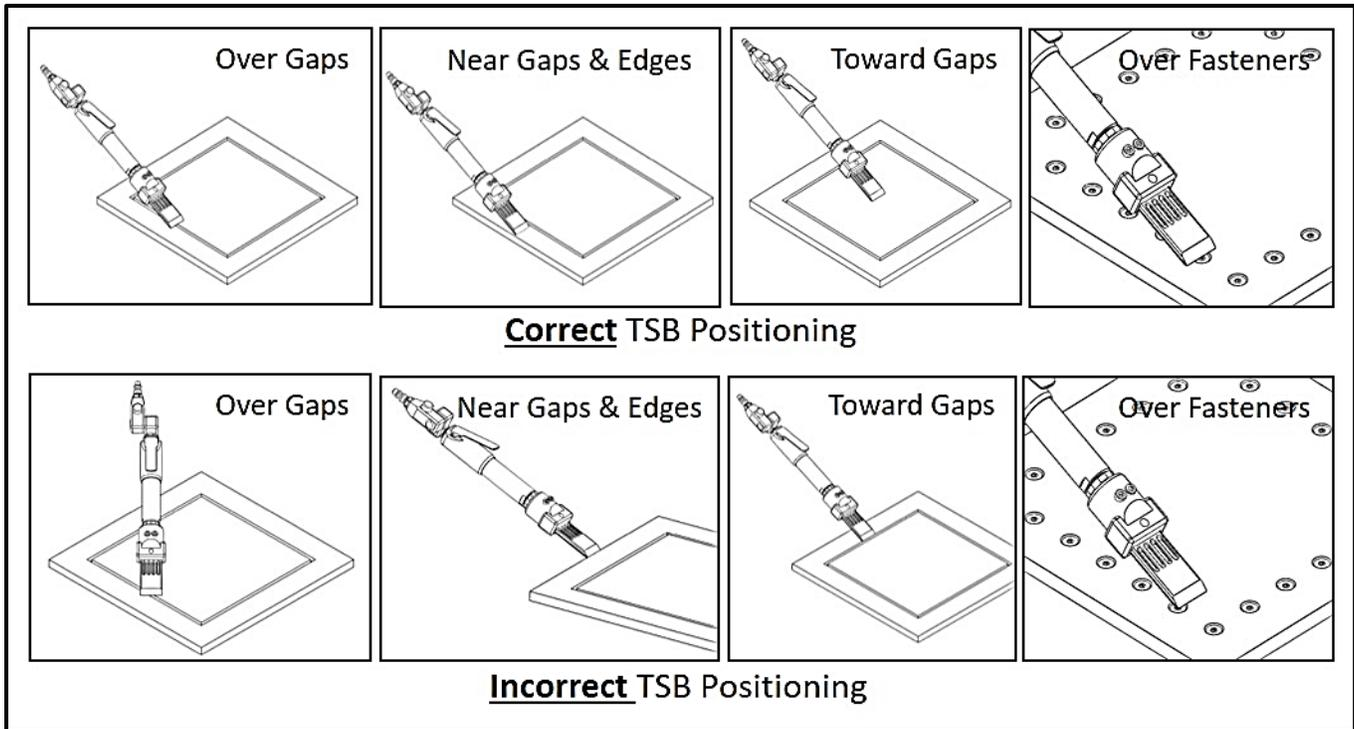

Figure 4. Material Removal Using TSB
3.1.4. Ensure proper positioning of the TSB and proper direction of material removal when removing materials near edges of structures, gaps and fasteners. Care must be taken to avoid blade contact with composite structure edges during initial blade engagement with the coating, boot or tape and during removal. When near part edges, removal should precede parallel to the edges. Blades should span gaps and fasteners. See **Figure 4**.